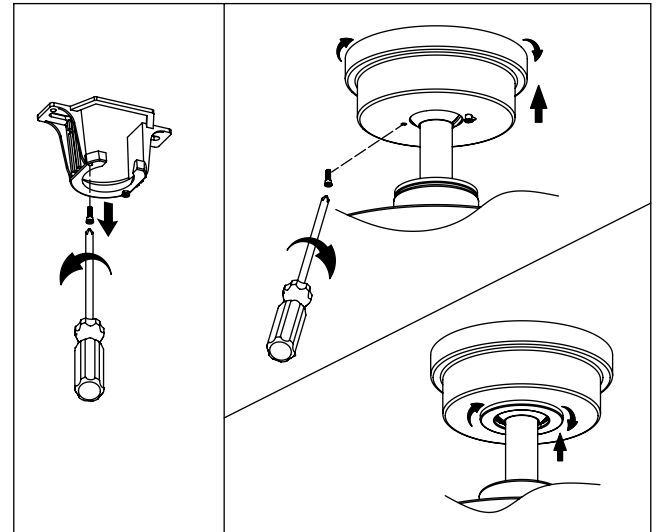

Fig. 18
Step 1. Remove one of the two shoulder screws in the mounting bracket. Loosen the second shoulder screw without fully removing it. (Fig. 18)
Step 2. Assemble canopy by rotating key slot in canopy over shoulder screw in mounting bracket. Reinstall the shoulder screw that was previously removed, then retighten two shoulder screws securely. (Fig. 18)
Step 3. Securely attach and tighten the canopy hole cover over the shoulder screws in the mounting bracket utilizing the keyslot twist-lock feature. (Fig. 18)